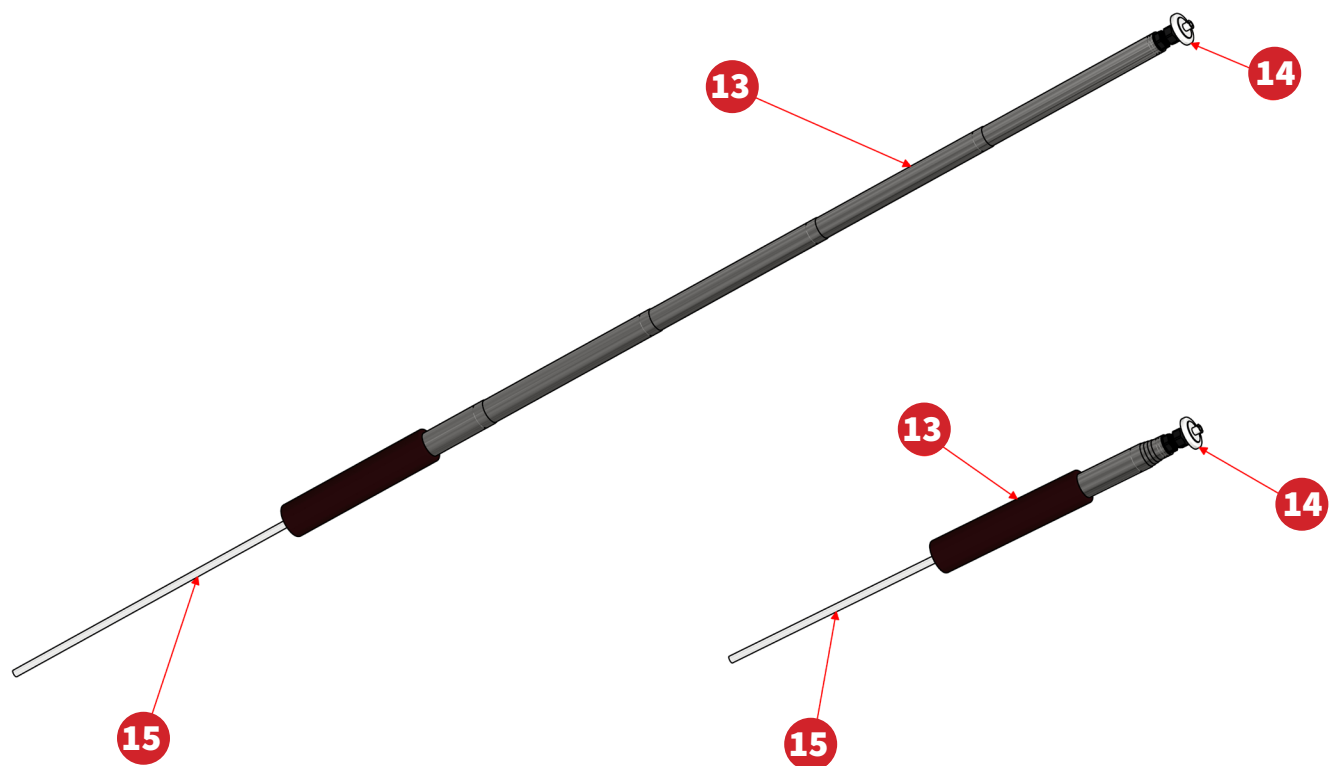

Figure 5: Wand, extended (top) and retracted (bottom)
- A retractable 36-inch (0.9-meter) inlet wand with a flexible 7-foot (2.1-meter) extension tube for safe remote sampling. (See figure 5)